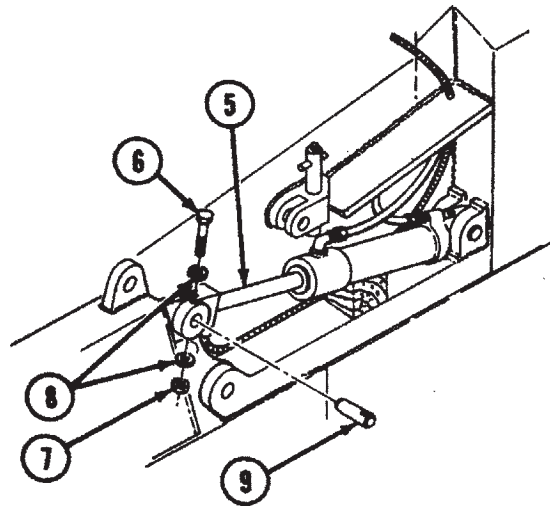

Figure 17. Hydraulic Cylinders.
Step 3 applies to Figure 17.
3. Support apron hydraulic cylinders (5) with blocks, and remove screw (6), nut (7), two washers (8), and pin (9) from each side of vehicle.